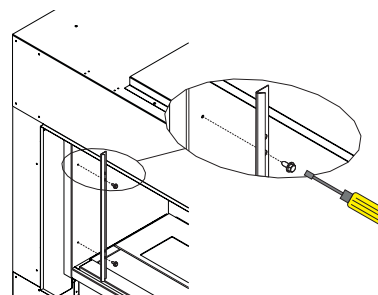

Figure 1
9. Use a 5/16" Nut Driver to install the two Side Retainer Brackets at the front left and right side openings of the firebox with (2) #10 X 1/2" screws each. Use the screws removed in step 5 to attach the brackets. These brackets must be installed so the angle break is facing rearward. **See Figures 1 and 2.**